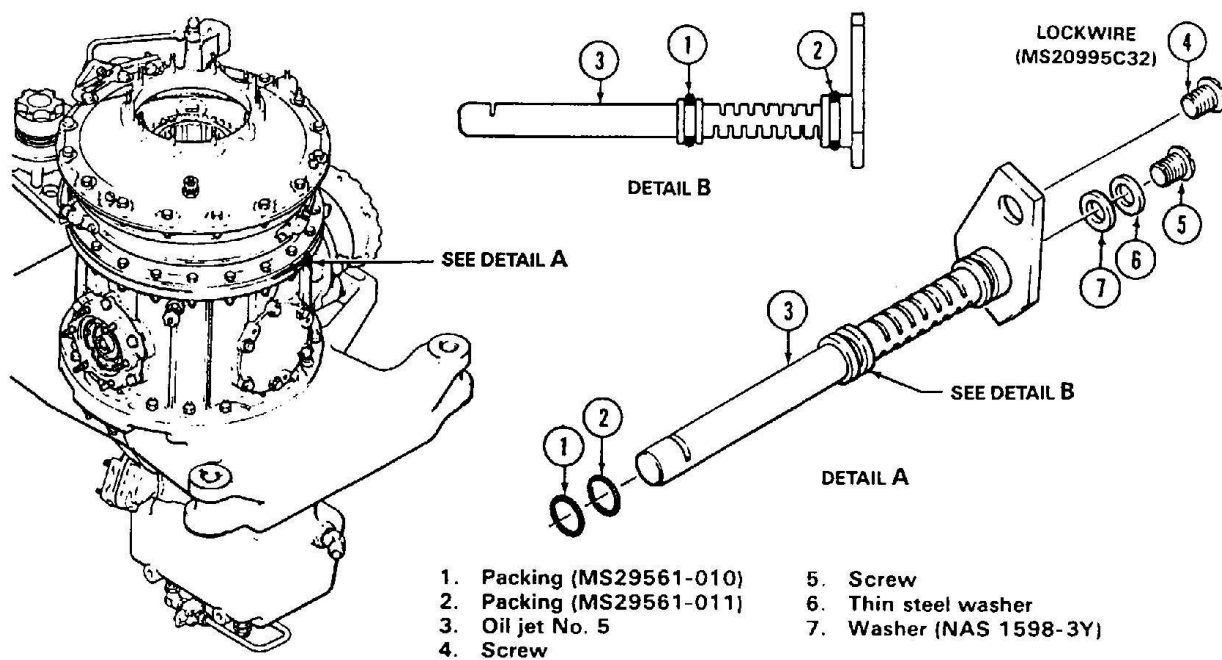

Figure 63-31. Transmission Oil Jet No. 5
- 63.5.15.1.1 Remove screw (4, Figure 63-31).
- 63.5.15.5.1 Install screw (5, Figure 63-31) with washers (6 and 7) on jet (3).